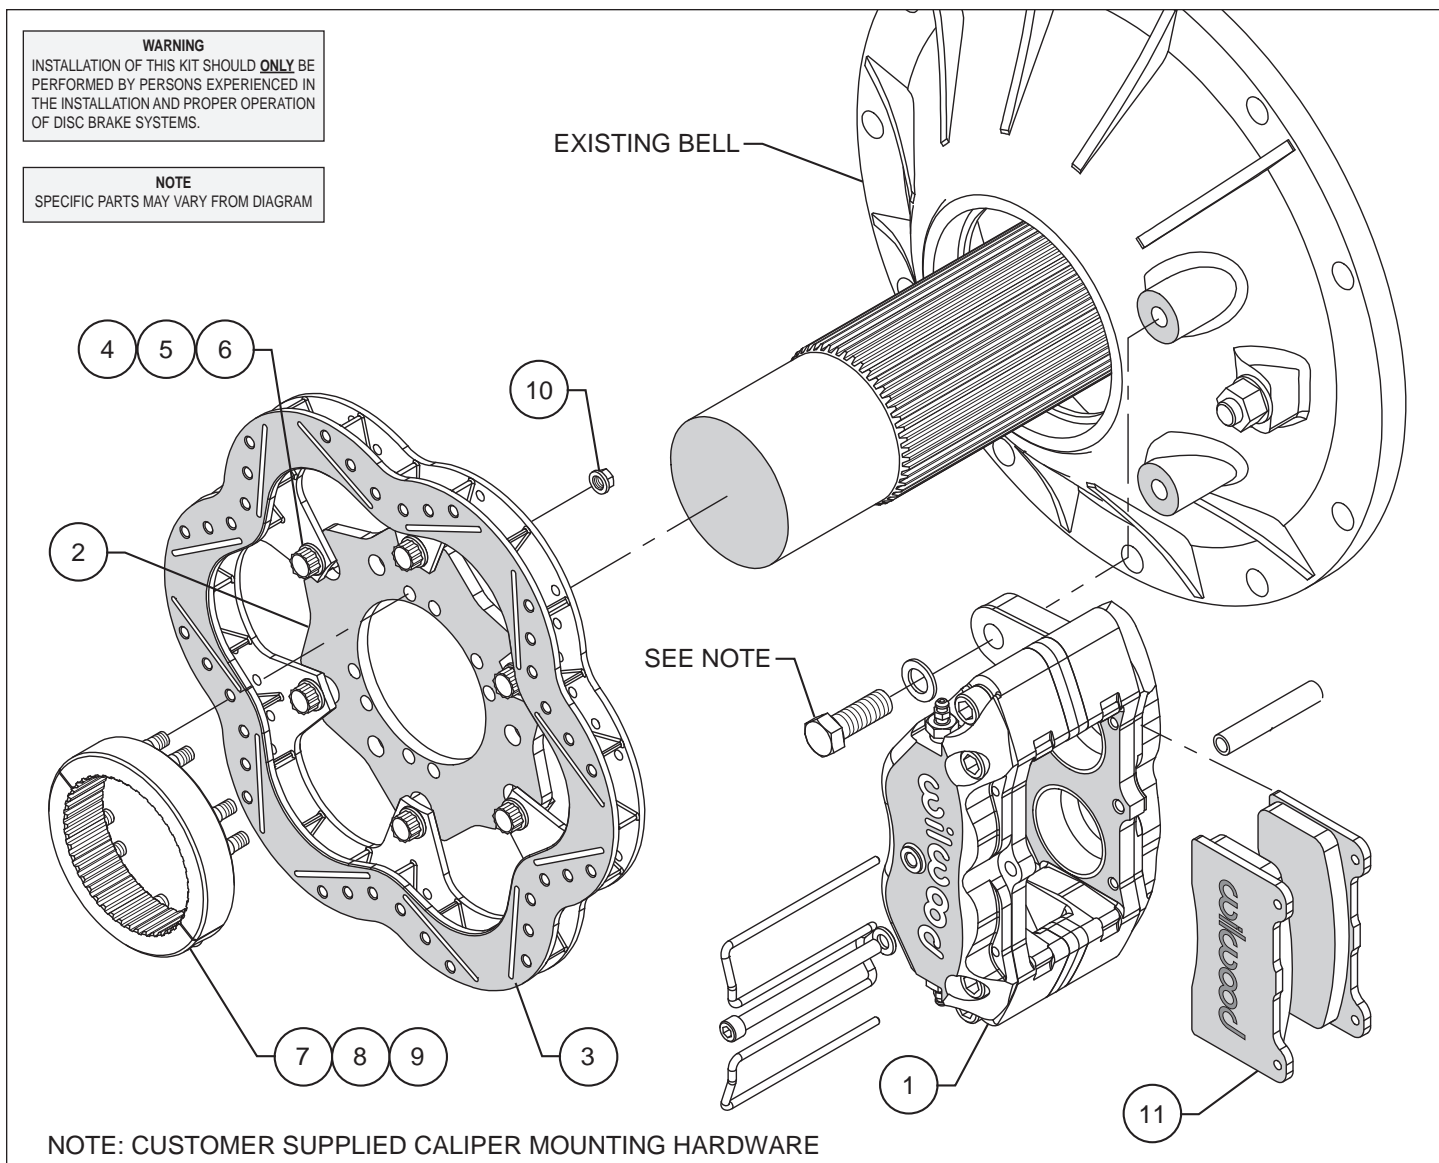

Figure 1. Typical Installation Configuration
- With the T-notches of the rotor adapter (2) facing away from the rotor (3), attach adapter (2) to rotor (3) using bolts (4), washers (5) and t-nuts (6) as shown in Figure 1. Finger tighten. After all t-nuts have been installed, torque bolts in an alternating sequence to 220 ± 20 in-lbs (~19 ± 1 ft-lb). Please refer to Wilwood's data sheet DS-669 (available at www.wilwood.com/Pdf/DataSheets/ds669.pdf) for complete t-nut bolt kit installation instructions .
- Install the caliper (1) onto the bell housing by first coating customer supplied bolt threads with red *Loctite*[®] 271 and sliding bolt through washer and through caliper mounting tabs and thread into the bosses on the bell as per figure 1. Torque bolts to specification. The inboard side of the caliper (1) tabs mount flush onto the mounting bosses. Looking through the top of the caliper (1) to be sure the rotor (3) is centered in the caliper (1). If not, loosen the axle clamp bolts and slide the rotor/adaptor assembly until the rotor is centered in the caliper, retighten clamp bolts.
- Remove the caliper quick-clip pad retainer as well as the caliper center bridge pad retainer bolt, nut, and tube from the caliper. Slide the brake pads (11) into place. They should install easily without interference. Check that the outside radius of the brake pad is flush with the outside diameter of the rotor face. Reinstall the center bridge pad retainer tube, bolt, and locknut. The locknut should be snug without play in the bolt or tube. Be cautious not to over tighten. Reinstall the quick-clip pad retainer.